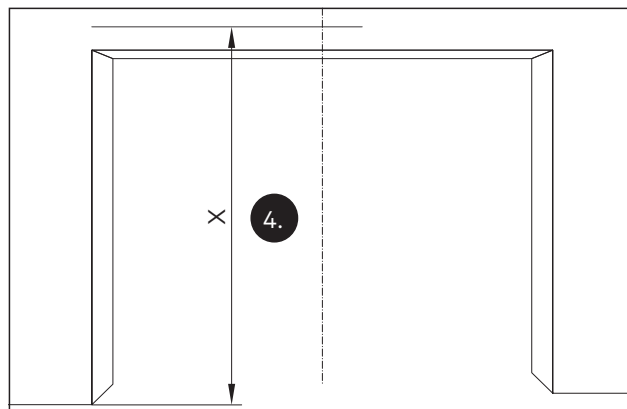

Fig. 8 Mark the distance X on the wall
4. Mark the top edge of the fixing bracket with the distance X from the highest point of the floor in the area of movement on the wall (Fig. 8).